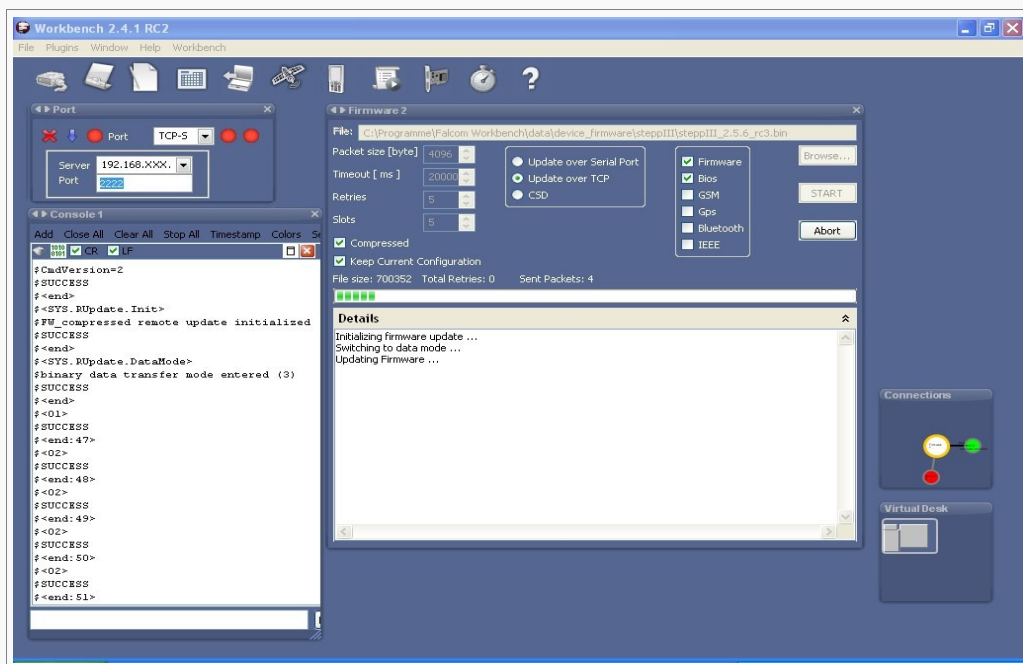

Figure 5: Update process
9. The current status is shown in the Details while the number of the packet and responses form the connected device are shown in the Console1 (see Fig. 5).